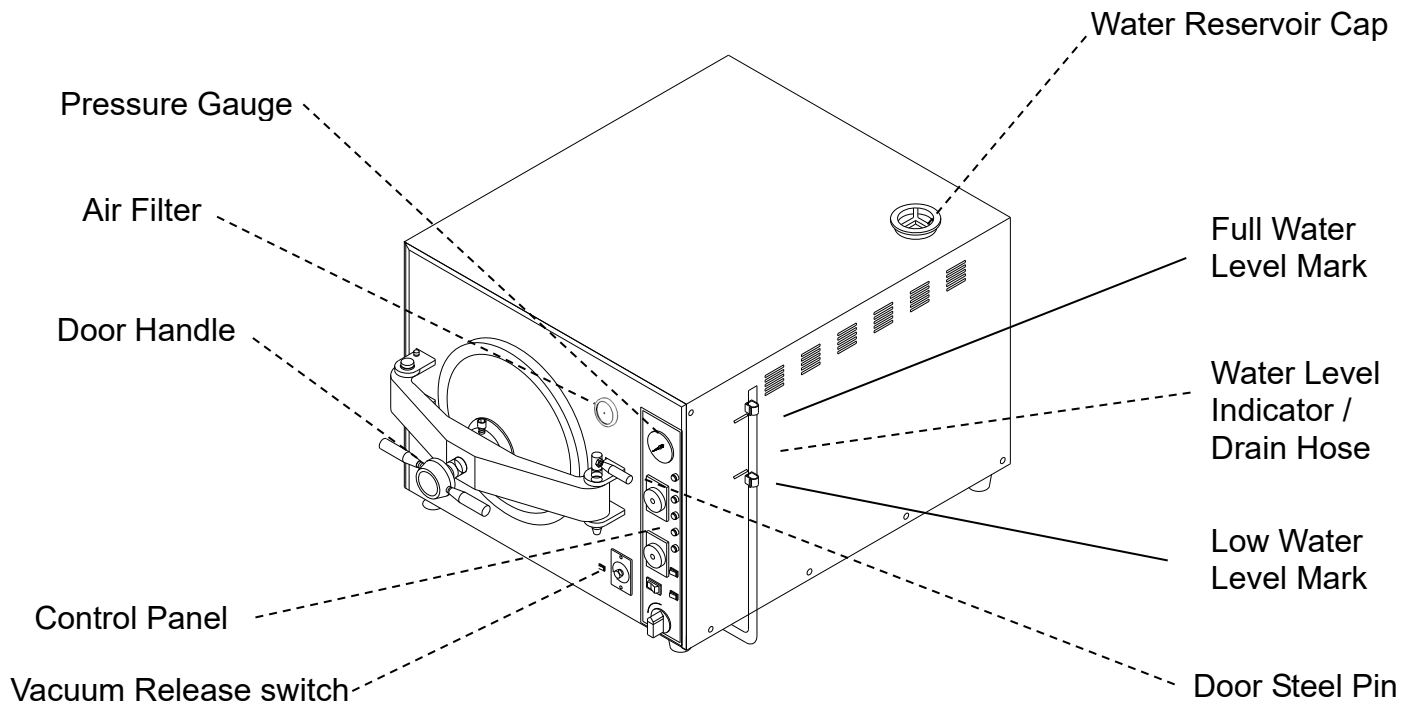

Figure 10 – Front View
**Caution:** Please fill Distilled Water Only into the unit. Take care not to overfill the yellow water level mark as “Figure 4” and “Figure 10 – Front View”.